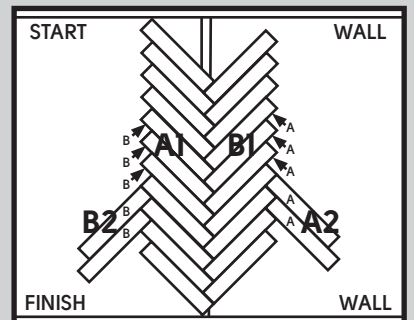

Fig 7.
8. Start at the finish wall and slide the end joint of a "B" plank into the side of an "A" plank. Slide the "B" plank back into the end of the "A" plank at a slight angle until tight (Fig 7.). Note: If you find you're drifting off your center line you can easily move product across the floor back and forth.